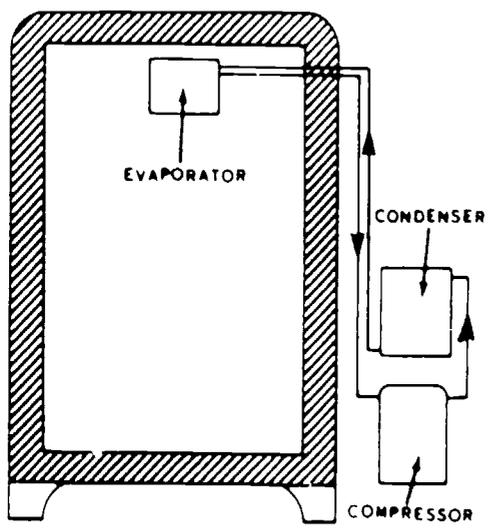

Figure 4. Air Spillover
**Air Spillover Using One Evaporator (See figure 4)**